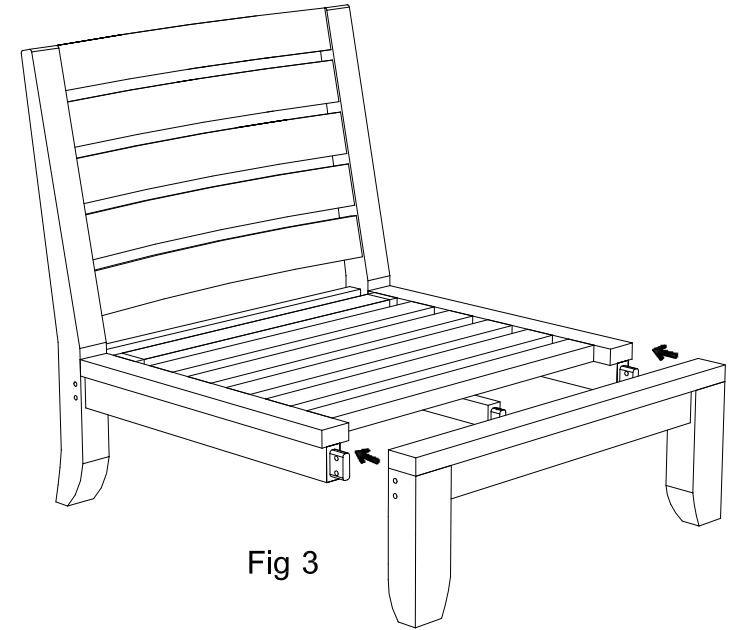

Fig 3
3. Insert the front leg. (Fig. 3)